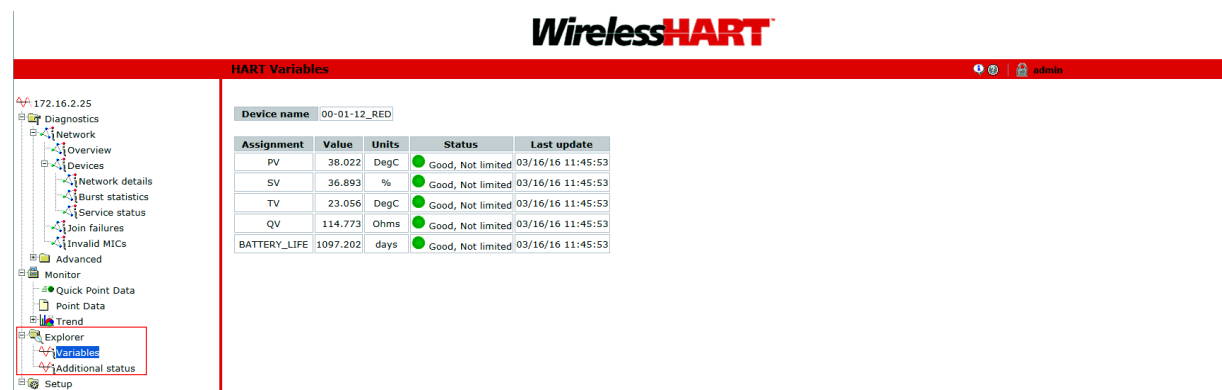

Fig. 11: Explorer - HART-Variables
2. Ensure the device is bursting the expected values. Wait at least three update cycles to ensure the number of updates. The available variables can be found in the "Explorer", see Fig. 11.